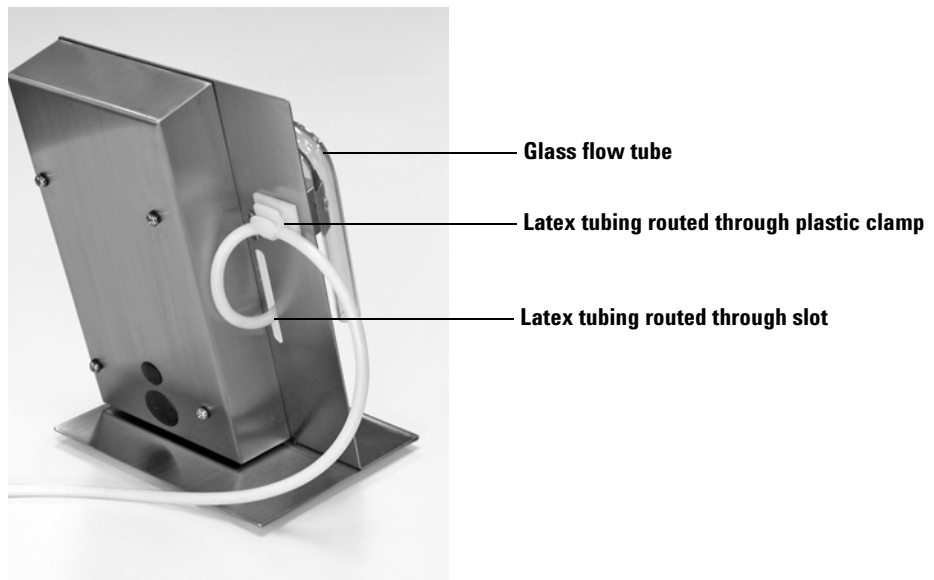

Figure 2 Correct positioning of latex tube
- 4 Feed the latex tube through the plastic clamp on the back of the flowmeter. See Figure 2.